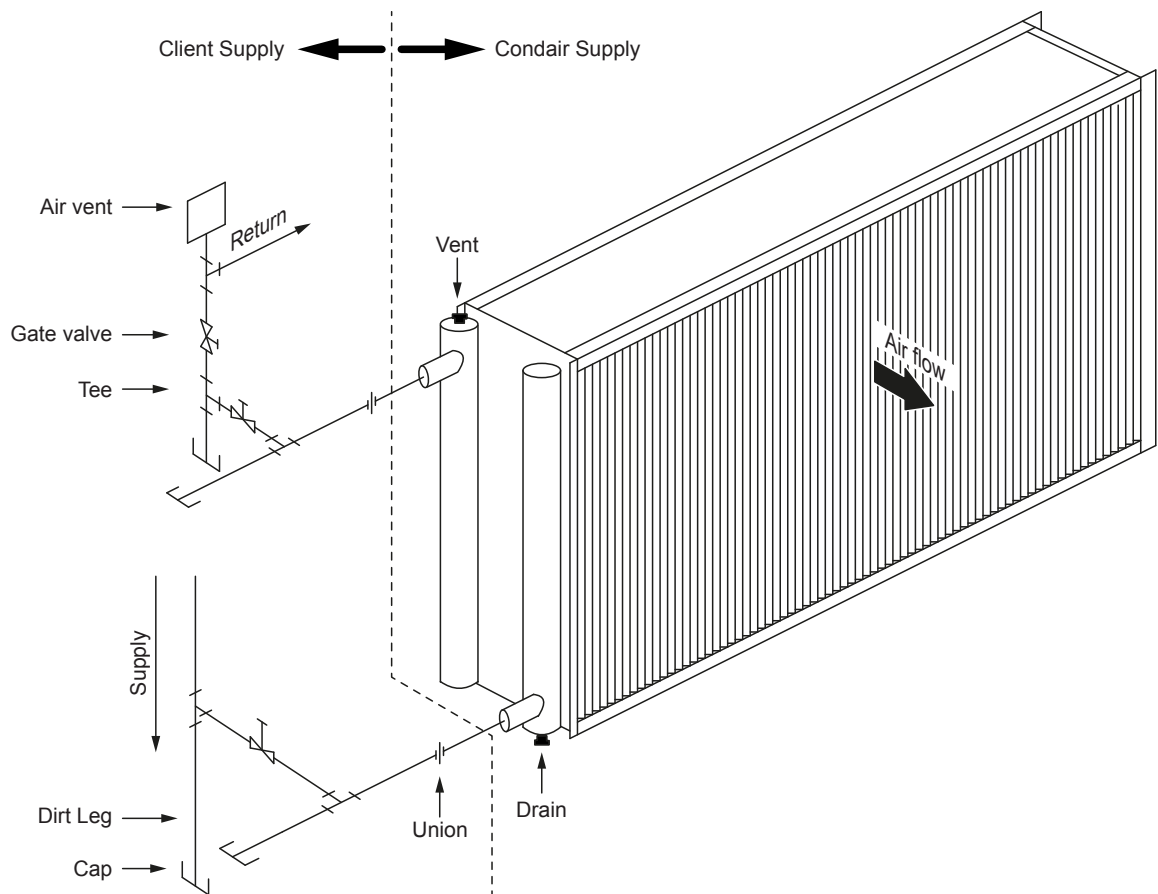

Fig. 18: Horizontal airflow piping diagram
6. Install the cooling module according to the piping diagram shown in Fig. 18.
1. Isolate the coil from the rest of the system by closing the valves on both the supply and return lines (see gate valves in Fig. 18).